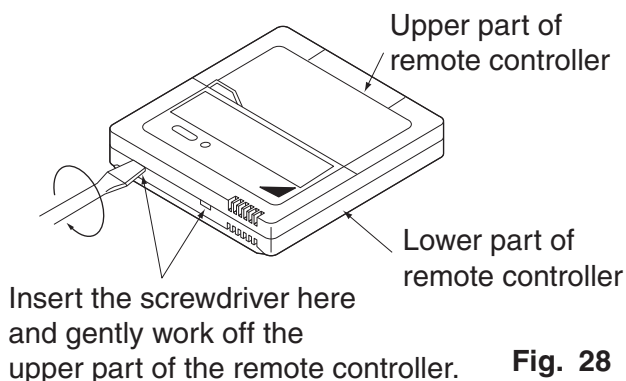

Fig. 28
- Insert a $\ominus$ screwdriver into the recess between the upper and lower part of remote controller, and working from the 2 positions, pry off the upper part. The remote controller PC board is attached to the upper part of the remote controller. (Refer to Fig. 28)